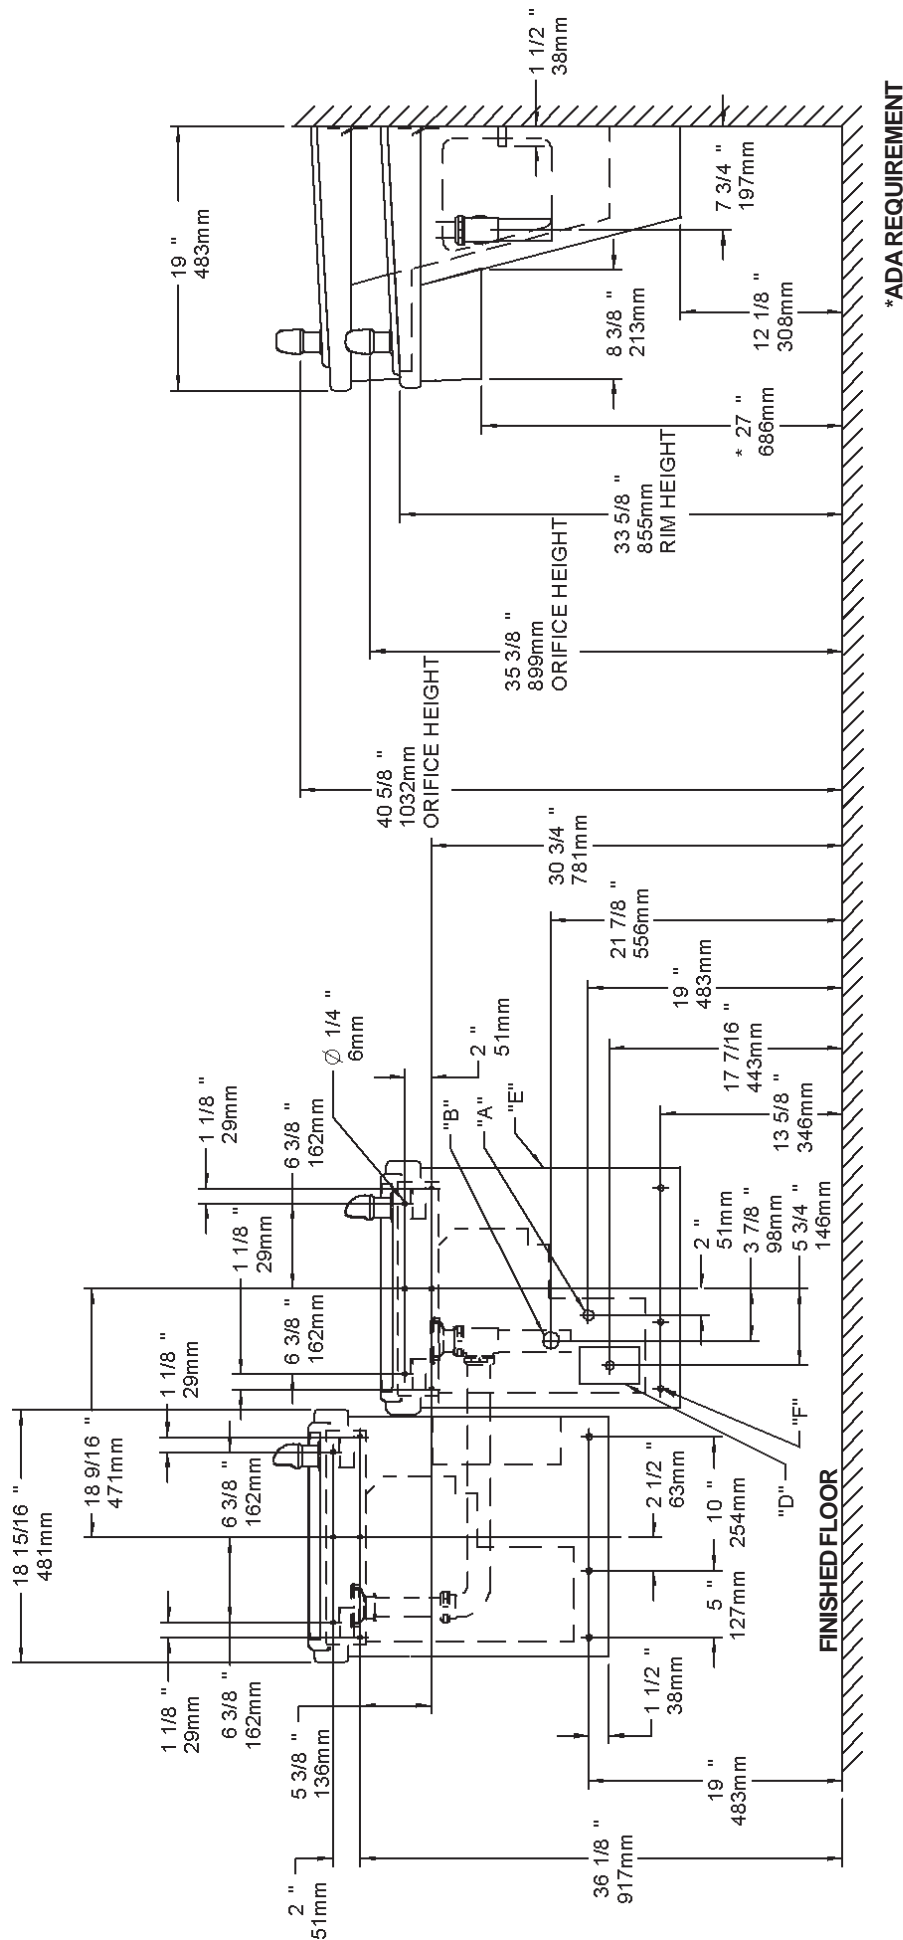

FIG. 2
**D = ELECTRICAL SUPPLY (3) WIRE RECESSED BOX**
- 1) Remove hanger bracket fastened to back of cooler by removing one (1) screw.
- 2) Mount the hanger bracket and trap as shown in Figure 2.
- Anchor hanger securely to wall using all six (6) 1/4 in. dia. mounting holes.
- 4) Hang the cooler on the hanger bracket. Be certain the hanger bracket is engaged properly in the slots on the cooler back as shown in Figure 2.
- 5) Loosen the two (2) screws holding the lower front panel at the bottom of cooler base and two (2) screws at the top. Remove the front panel and set aside.